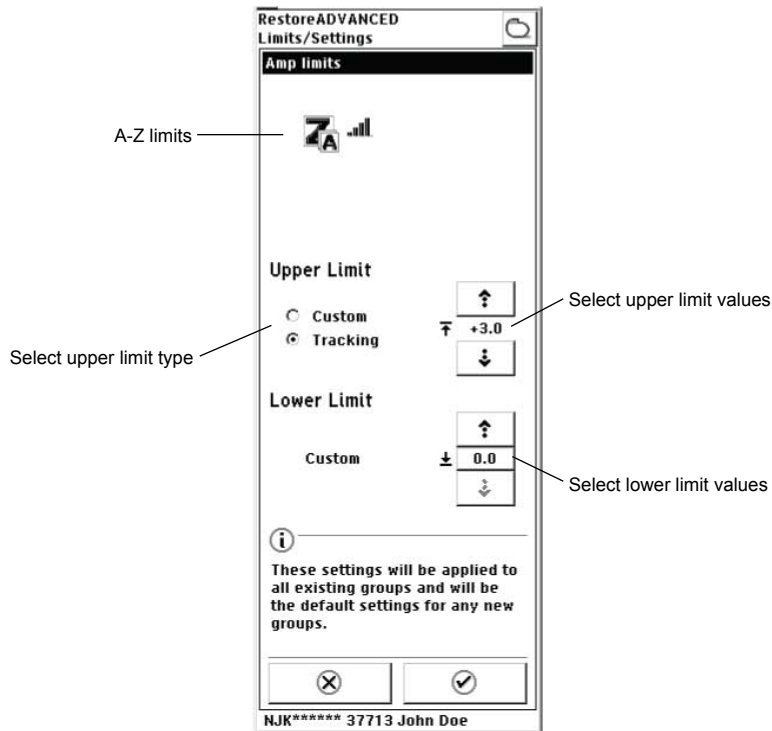

Figure 40. Programming A-Z limits (AMP LIMITS screen shown).
4. Select the entry from the input box. The AMP LIMITS screen, PW LIMITS screen, or RATE LIMITS screen appears (Figure 40).